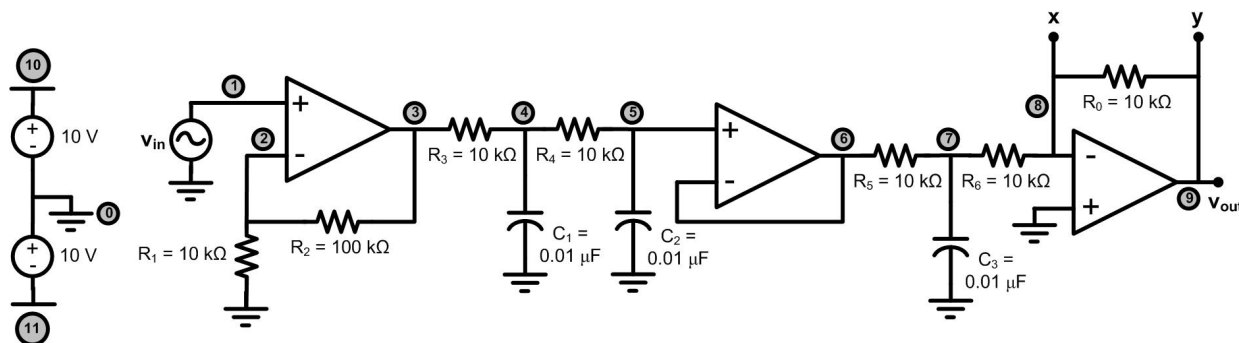
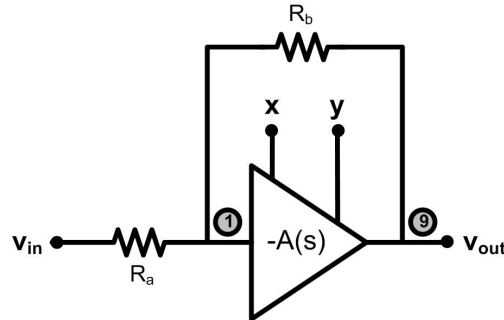

Figure 1: Open-loop amplifier schematic.
Figure 2: Schematic for uncompensated amplifier with feedback.
Create a .cir file for the circuit shown in Fig. 1. **Note the configuration of the input terminals of the third opamp** (its terminals are flipped with respect to the other opamps). The model for the 741 opamp is available on the class website. Number your nodes as indicated to maintain consistency with the rest of the class, and to make it easier to help you if you have questions.
The circuit in Fig. 1 models an op-amp with multiple gain stages, where v_{in} is the negative input, and the positive input is implicitly grounded. This circuit has a high input resistance, low output resistance, and reasonably high gain. The capacitors $C_1 - C_3$ limit the
In the next part of the experiment we will close a feedback loop around the amplifier and characterize its performance for different feedback factors and compensation methods. Connect the feedback network around the amplifier, as shown in Fig. 2. The triangular block represents the entire 3-stage amplifier of Fig. 1 (our "op-amp"). Note that this feedback configuration corresponds to the familiar "inverting amplifier" op-amp topology. What do you expect the gain to be in this case? Terminals x and y should be left open, but the resistor labeled R_0 in Fig. 1 should not be removed.
1. Let $R_a = 1 \text{ k}\Omega$ and $R_b = 3.3 \text{ k}\Omega$. Ground the input (remove the v_{in} source in Fig. 1 and connect the positive input of the first opamp to node 0 (ground) instead of node 1) and run a transient simulation **with a length of 1 ms**. Plot the output voltage. Does the feedback amplifier oscillate? If so, plot the waveform at v_{out} , and report the approximate period. Is this the expected period based on your bode plots for the open-loop amplifier?
3. An alternate way to compensate the amplifier is by introducing a Miller capacitance across terminals x and y . As discussed in class, the advantage of this approach is that compensation can be achieved with a smaller capacitor. Change C_2 back to its original value, and add a capacitance C_C across terminals x and y in Fig. 1. Adjust this capacitance until the amplifier has a phase margin of about 70° (again, taking into account the β that results from the closed-loop configuration that we are using). **Record the value of C_C ,** and compare how much capacitance we have added to the circuit in this case to the case of increasing the size of C_2 .